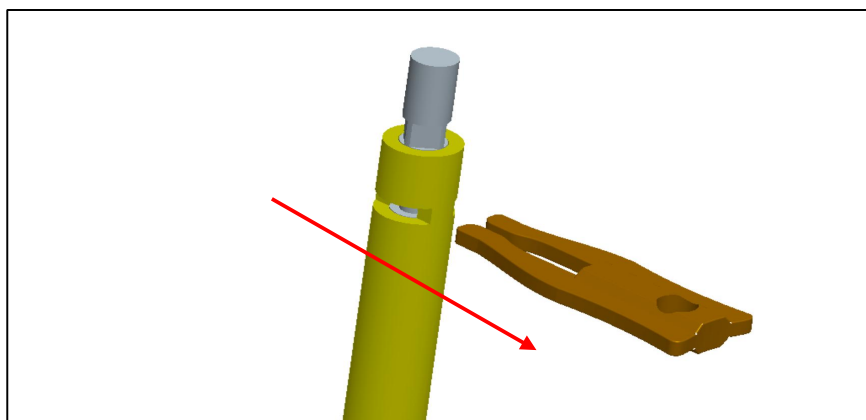
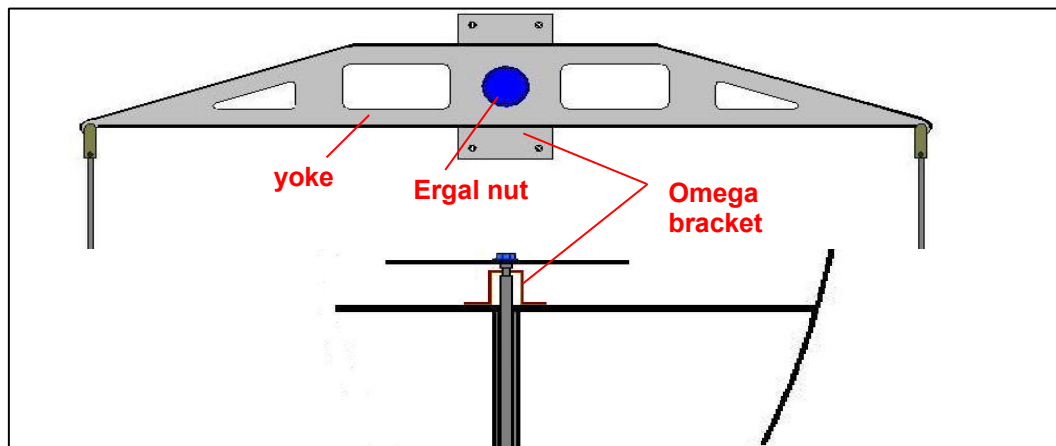

Fig.1 Rudder-lock
Fig.2 Traditional Mounting
- Remove the rudder-lock or, depending on the version, remove the retainer bracket ("omega" shape) of the rudder shaft turning the screws of the seal (see figure 1 or figure 2)